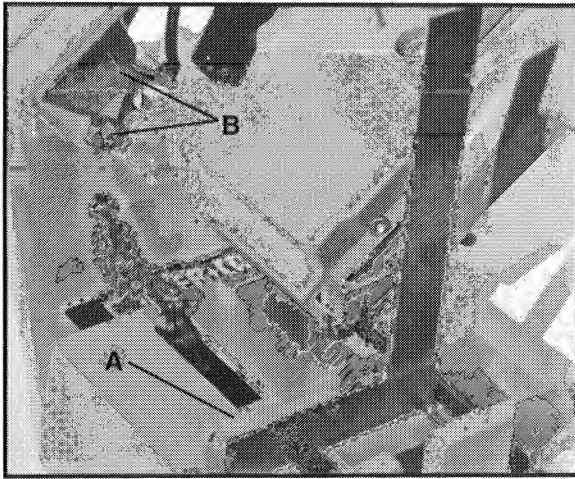

Fig. 10
3. Place a square (A) Fig. 10, on the base working surface and against the blade as shown, and check to make certain the blade is at 90 degrees to the base working surface. If an adjustment is necessary, loosen the two screws (B) Fig. 10, and swivel the arm until the blade is at 90 degrees to the working surface. Then tighten the two screws (B).